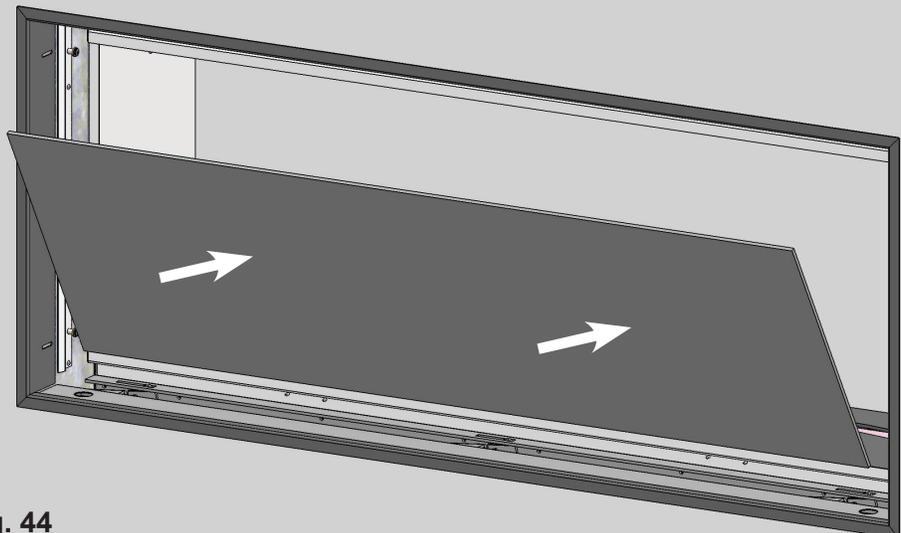

Fig. 44
5. Handle the rear glass by the edges to prevent smudging, wear clean vinyl gloves if possible. Position the glass into the firebox. Rest the glass on the rear ledge behind the floor glass support brackets. (Fig. 44 & 45)